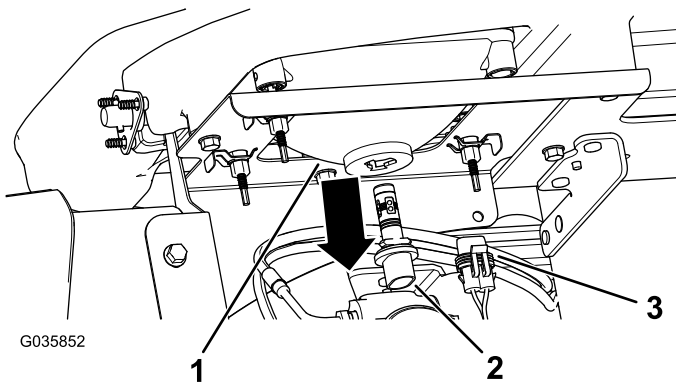

Figure 40
3. Disconnect the electrical connector for the harness from the connector of the lamp assembly at the back of the headlight housing (Figure 40).
4. Rotate the lamp assembly 1/4 turn counterclockwise and moving it rearward, out of the headlight housing (Figure 40).
with the slots in the headlight housing (Figure 40).
6. Secure lamp assembly by turning it 1/4 turn clockwise (Figure 40).
7. Connect the electrical connector for the harness to the connector of the new lamp assembly (Figure 40).